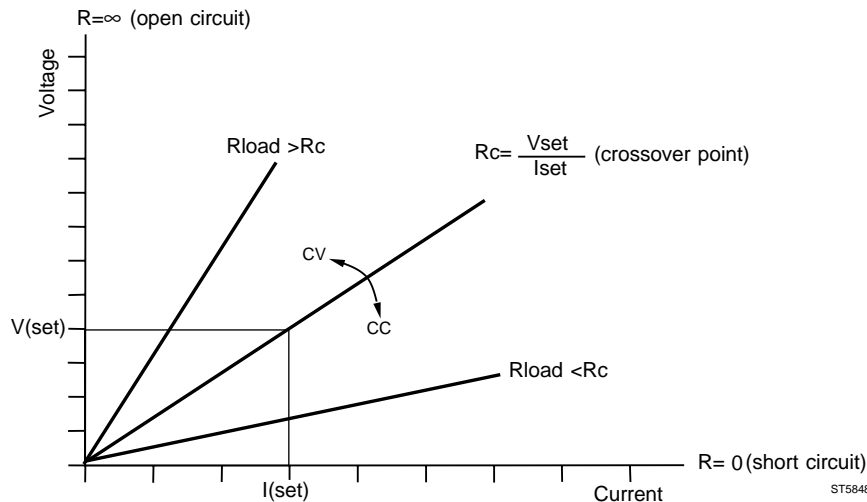

Figure 5.5.7 Power Output Crossover Point
- If R_{load} increases from 8Ω to 16Ω , then $R_{load} > R_C$, so the output channel goes into the CV mode (refer to figure 5.5.7). This means that $V_{load} = 8V$ and I_{load} becomes $8V/16\Omega = 0.5A$.
- If R_{load} decreases from 8Ω to 4Ω , then $R_{load} < R_C$, so the output channel goes into the CC mode (refer to figure 5.5.7). This means that $I_{load} = 1A$ and V_{load} becomes $1A \times 4\Omega = 4V$.